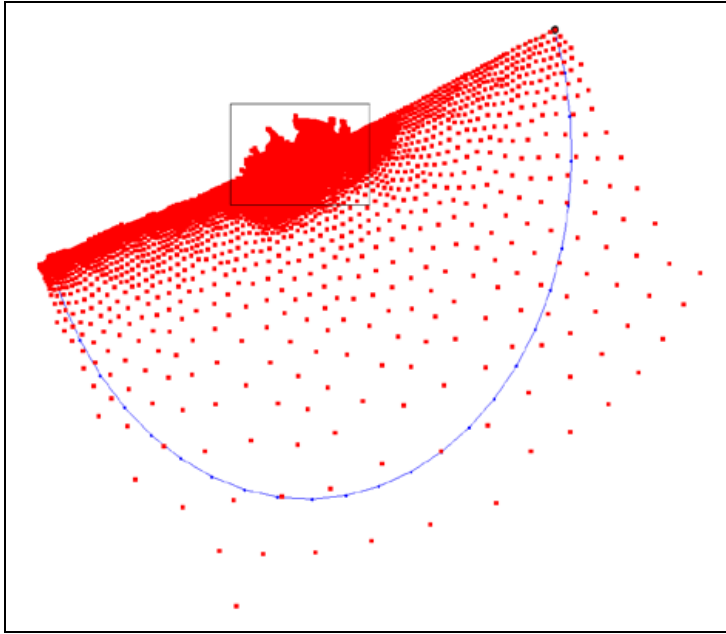
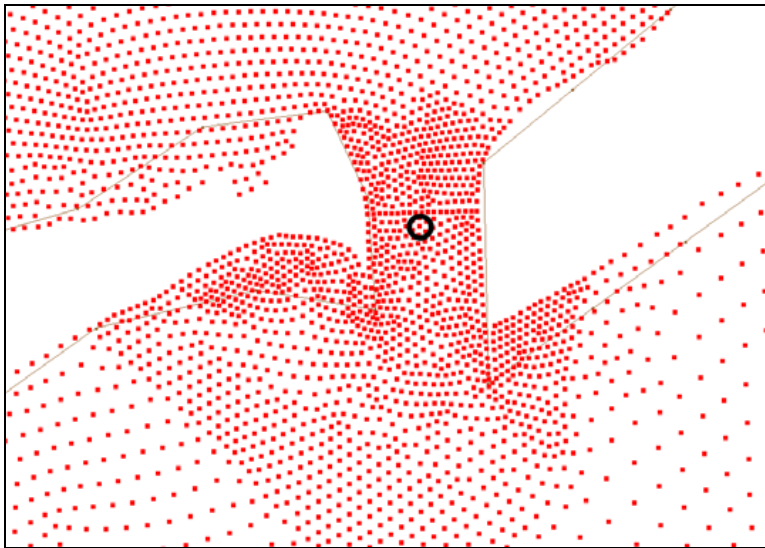

Figure 3 Inlet location to zoom in on
Figure 4 Choose a center point
1. Still in the Scatter  module, zoom in to the area of the inlet shown in Figure 3 with the **Zoom**  tool until the screen looks like Figure 4.